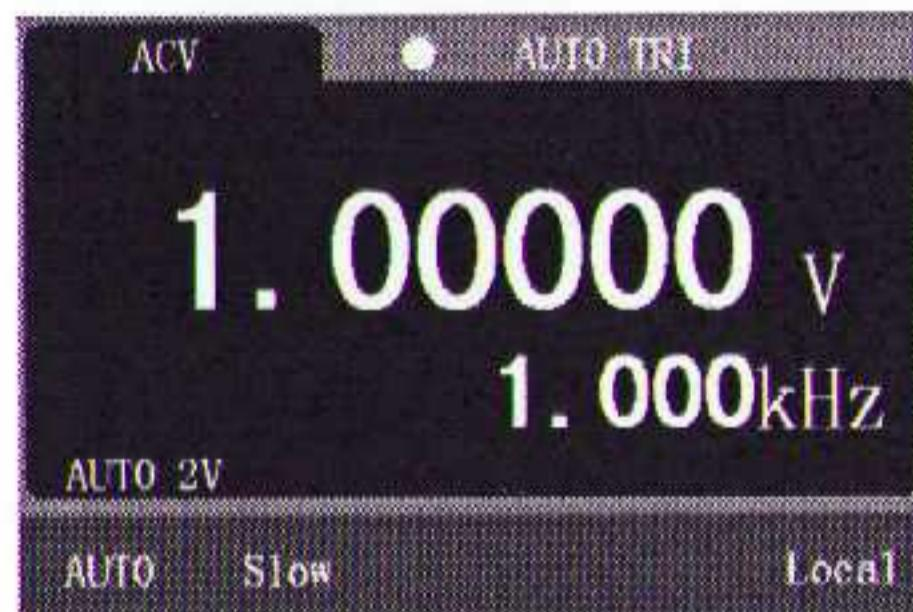

Figure 4-3 Measurement interface
1. Press to select the AC voltage measurement function. The measurement interface is shown in Figure 4-3.